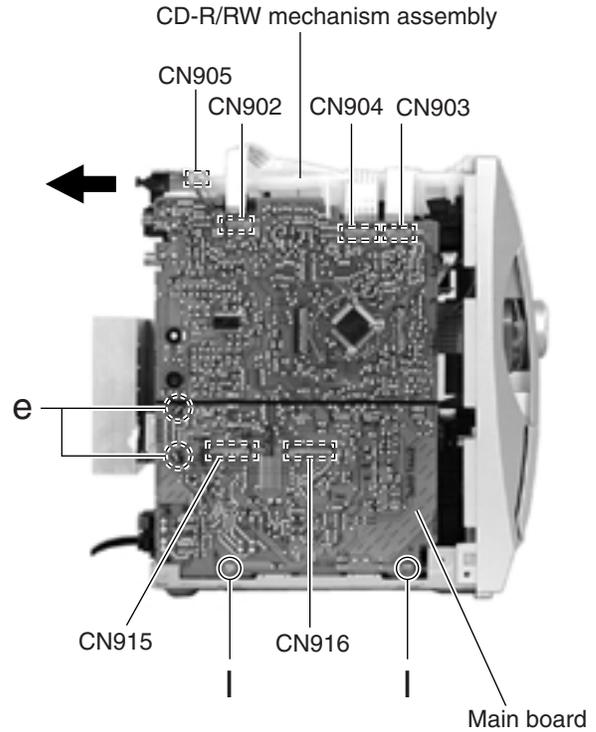

Fig.9
**■ Removing the Main board/ the Heat sink board (See Fig.9 to 11)**